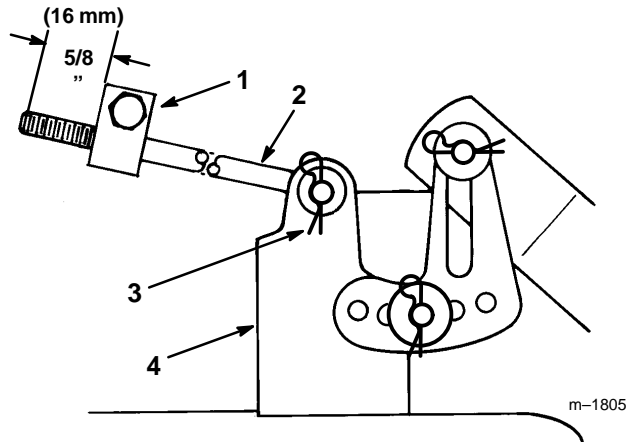

Figure 49
6. Measure the length of the rod extending out the front of the adjusting block on the sides of the chassis (Fig. 49). If the rod length is not 5/8” (16 mm), remove the hair pin cotter and washer from the end of the rod (Fig. 49), and turn the rod until the 5/8” (16 mm) dimension is obtained. Then install the end of the rod into the hole in the mower mount and secure in place with washer and hair pin cotter. Repeat this procedure on the opposite side of the mower.